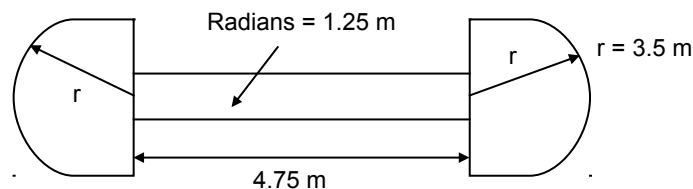

Figure 7
- (b) Given a solid bell shaped bar (Figure 7) find I_{xx} , I_{yy} and I_{xy} of this section.